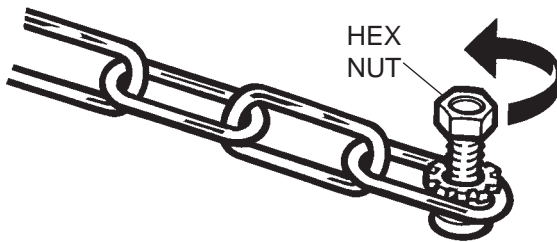

Figure 5 – loosening the hex nut
1. Loosen the hex nut at the unattached end of the safety chain, until it is flush with the screw end. Do not remove it completely. (Figure 5)